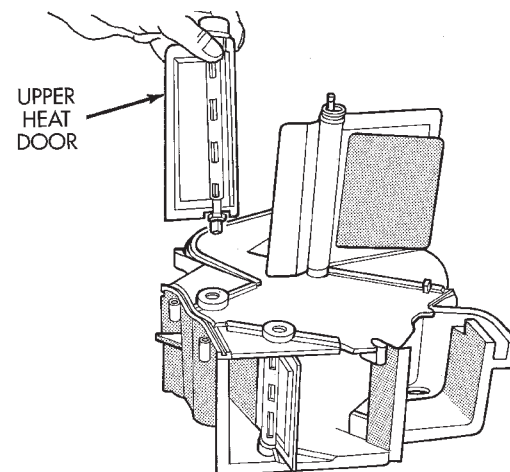

Fig. 75 Floor Door
- (22) Remove upper half of Floor door (Fig. 75).